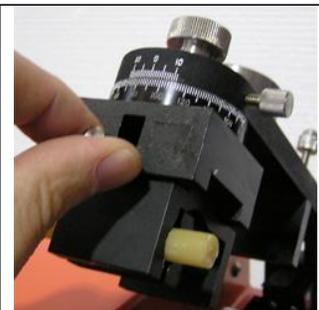

Fig. 5c
- (9) Double check all screws to make sure everything is ready for cutting (Fig. 5c)